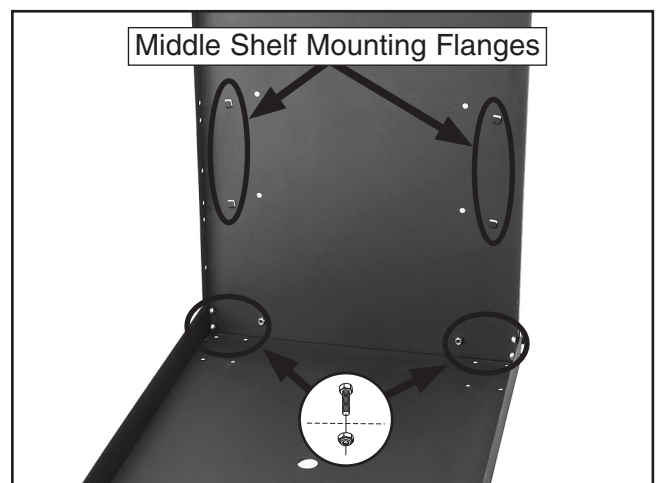

Figure 6. Side panel installed onto the bottom shelf.
2. Install the side panels inside the flanges of the bottom shelf, as shown in **Figure 6**, using six hex bolts and lock nuts for each side.
Note: Make sure the middle shelf mounting flanges on the side panels are pointing up, as shown in **Figure 6**.
Note: There are two possible mounting positions for the middle shelf, as shown in **Figure 6**.